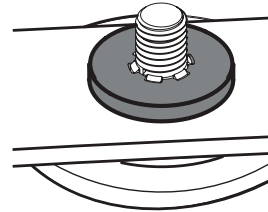

Fig. 65
- Carefully place the flat washer on the spindle shaft. Be sure that the splines at the base of the spindle shaft threads line up with the washer splines (Fig. 65).